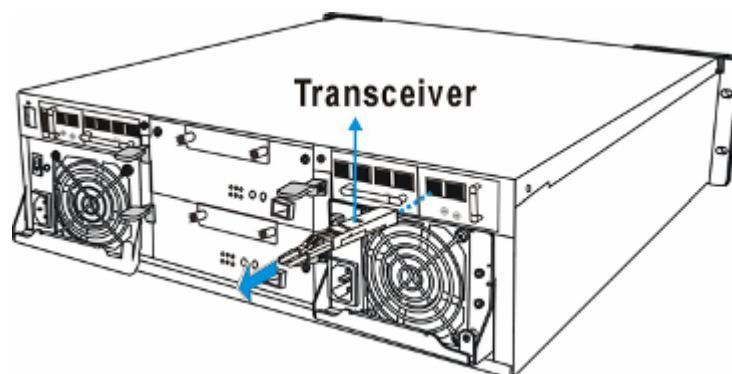

Figure 5-11: Disconnecting the SFP Transceiver
Step 1. Disconnect the SFP transceiver(s) and optical cables that are connected to the I/O modules. Press the latches on the transceiver. The transceivers will be loosened from the SFP socket by the mechanism. You may then pull out the transceiver module along with its fiber cable. (See *Figure 5-11*)